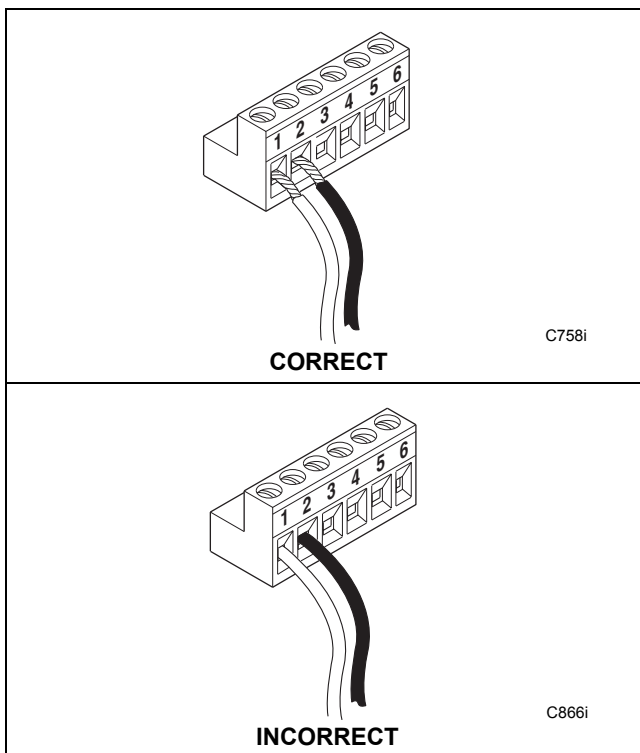

Figure 6
- Insert the wire into the connector. The red or white incoming wire goes into slot 1 and the black incoming wire goes into slot 2. Check that only wire, not insulation is inside the connector. Refer to *Figure 6*. Incorrect installation could result in the network not communicating. Secure the wires in place by tightening the screws on top of the connector.